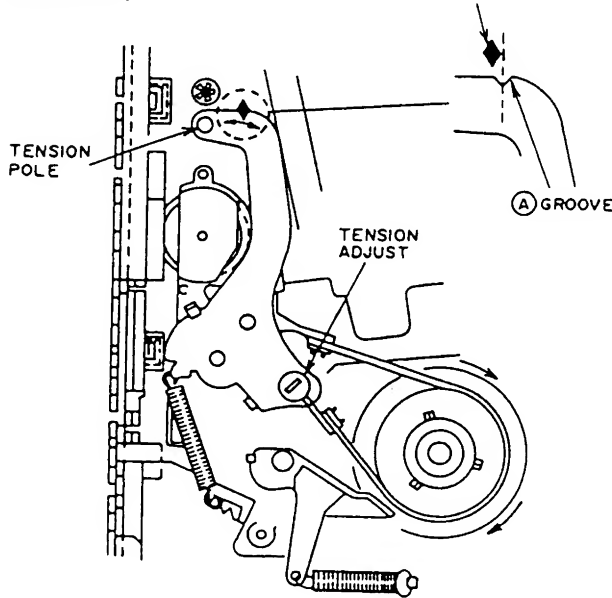

Fig. 4-1
- 2) Confirm that the (A) groove on the TENSION ARM aligns with right end of the (A) mark on the MECHA. CHASSIS as shown in Fig.4-1.